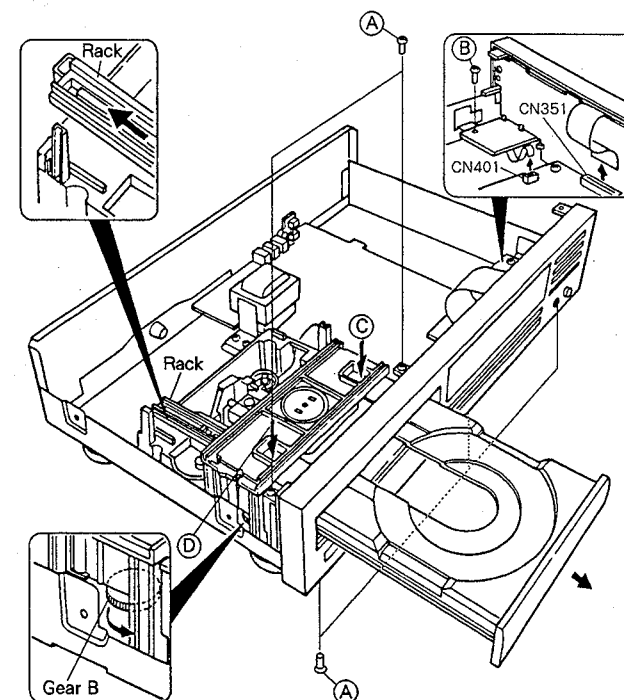

Fig. 2-2
- ① Turn the POWER switch ON, and open the tray by the OPEN/CLOSE key. (Refer to the Note 1 when opening the tray by hand-operated.)
- ② Pull out the tray slowly by pushing the nail of the tray section from two holes ③ and ④ of the clamp holder (Fig. 2-2). (It is necessary to push the nail of the tray section at the front panel portion.)
- ① Remove five screws ① (Upper side is two screws and under side is three screws.) to the front panel.
- ② Remove a screw ② to the Headphone board assembly (Fig. 2-2).
- ③ Disconnect two connectors CN351 and CN401 from the Mother board assembly (Fig. 2-2).
- ④ Remove the front panel and the Headphone board assembly together.
- ① Turn the gear B slowly in the direction of arrow by ⊖ screwdriver with care not to damage the gear B (Fig. 2-2).
- ② Turn gear B until the tray starts to move in the direction of the OPEN position.
- ③ Move the tray to the OPEN position by hand.